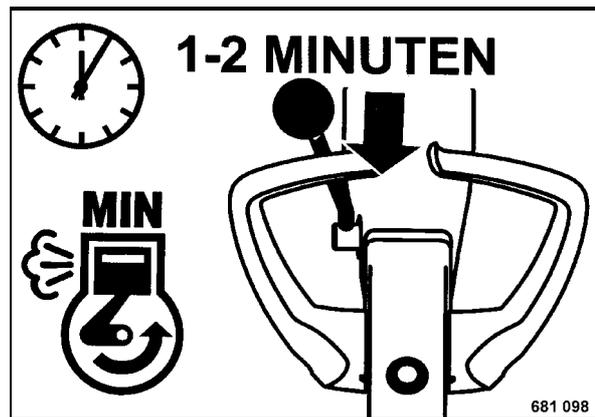

Fig. 34
- Shift the throttle lever to position "Min" (Fig. 34) and let the engine run with idle speed for a short while.